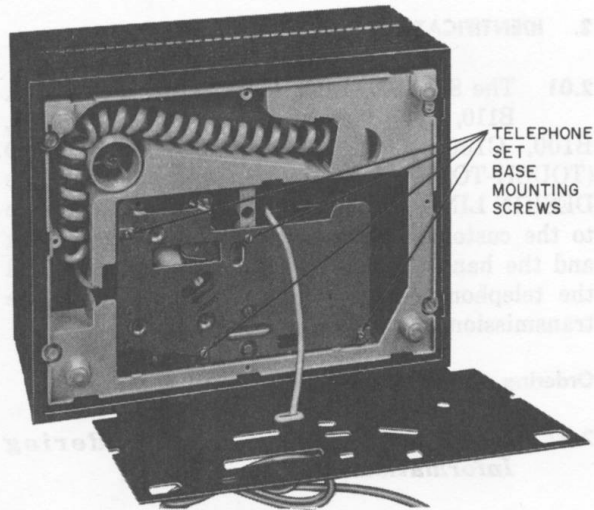
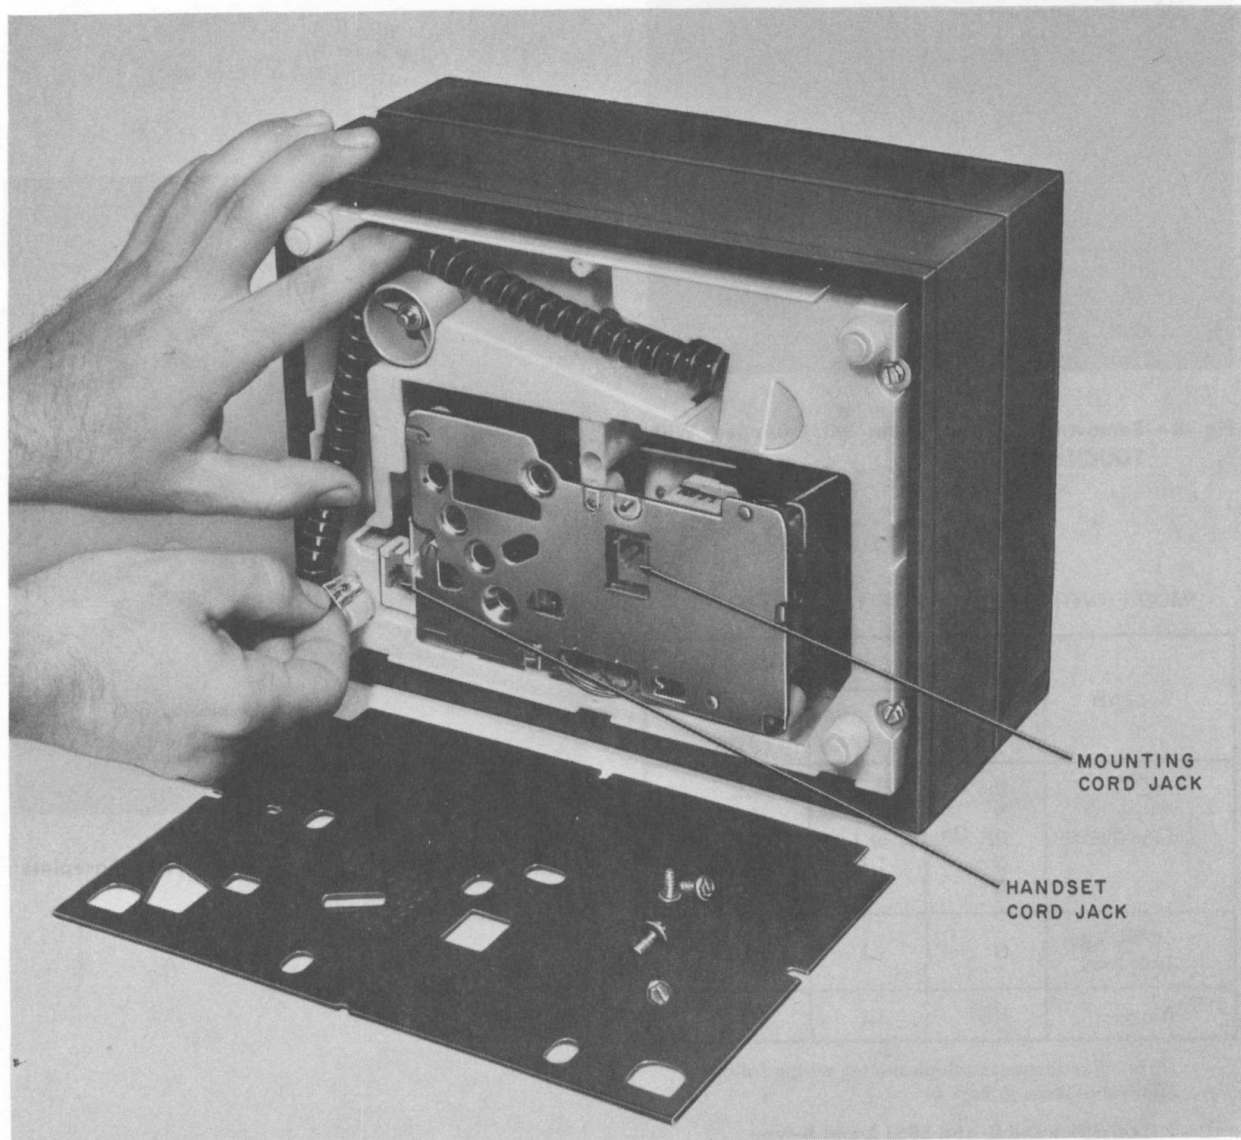

Fig. 5—881A100 or 2881A100 Telephone Set With Bottom Cover Removed
Fig. 7—881B100 or 2881B100 Telephone Set With Bottom Cover Removed
- (2) Disconnect base end of handset cord (Fig. 7).
- (3) Pull cord, attached to the handset, out through the top of the telephone set base.
- (4) Remove four telephone set base mounting screws and withdraw the base (Fig. 5).